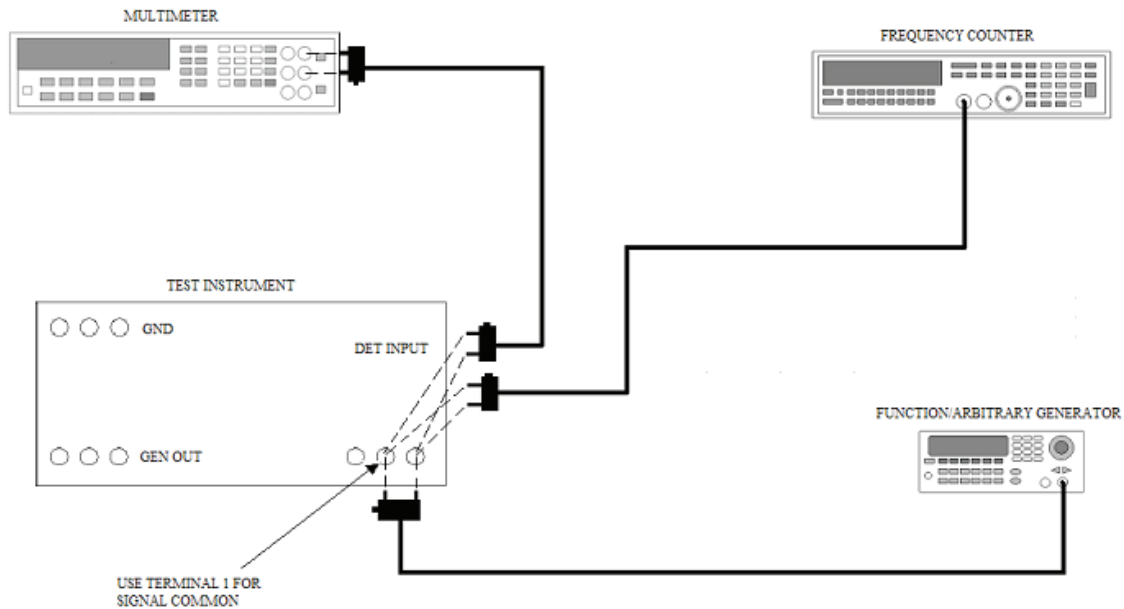

Figure 3. Ac detector sensitivity and selectivity - equipment setup.
- (3) Connect equipment as shown in figure 3.
- (4) Turn **GEN VOLTAGE** control cw out of **OFF** position. Allow at least 5 minutes for equipment to warm up and stabilize.
- (5) Rotate **DET GAIN** control fully ccw.
- (6) Adjust function/arbitrary generator for a 200 mV rms (millivolts root-mean-square) output with frequency at 1 kHz (kilohertz) and output impedance for 50 ohms.
- (7) Move multimeter and cable from **DET INPUT** terminals to **DET OUTPUT** terminals.
- (8) Fine tune function/arbitrary generator frequency control for peak indication on multimeter. Frequency counter will indicate between 990 and 1010 Hz (hertz).
- (9) Adjust **DET GAIN** control between fully ccw and approximately one-fourth turn cw for a convenient multimeter indication. Record multimeter indication.
- (10) Increase function/arbitrary generator frequency until multimeter indication is - 30 dB (decibel) from indication recorded in (9) above. Frequency counter indication will be 2020 Hz or less.